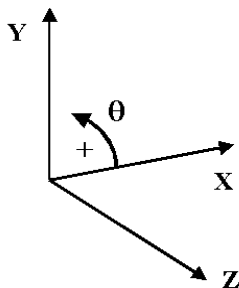

FIGURE 8.2.0-2 Positive rotation speed
- The FINE™/Turbo solver solves the equations in a relative frame of reference. This implies that the mesh blocks surrounding rotating blades rotate with the blades and should therefore be set as "rotating" in this page. The **Rotational Speed** of the block has to be given in Revolutions Per Minute (RPM). A positive value for the rotation speed indicates a rotation in positive  $\theta$ -direction with  $\theta$  positive according to a right handed coordinate system. In Figure 8.2.0-2 this is illustrated for the case where the z-axis is the axis of rotation which is automatically the case for a mesh created with AutoGrid™.